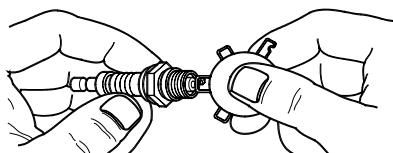

Figure 4-6. Spark Plug
- Inspect electrode gap with wire feeler gauge and reset spark plug gap to 0.6 - 0.7mm (0.024 - 0.028 in). See **Figure 4-6**.